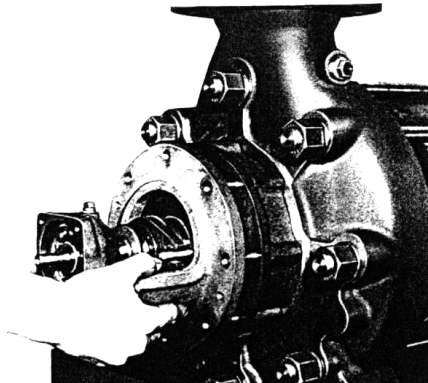

Fig. 80 - Mounting the bearing housing
3. Mount bearing housing (350) together with outer race of cylindrical roller bearing (322) and tighten hex. nuts (920.2) evenly (see Fig. 80).